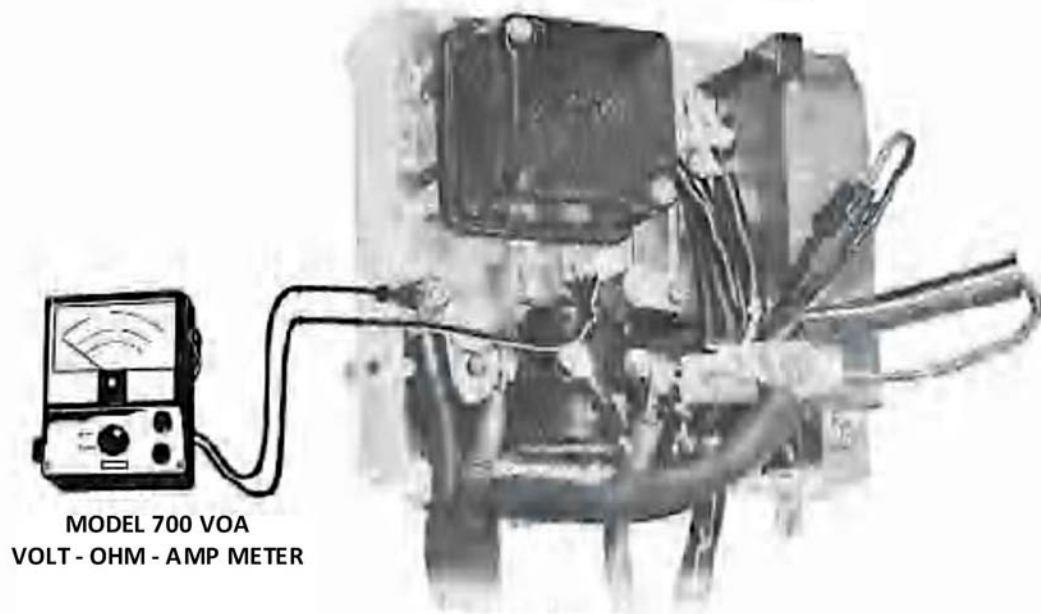

Figure 35
1. To check the voltage setting reconnect all connections and then connect the positive Merc-O-Tronic Model 700 VOA voltmeter lead to the regulator "BAT" terminal and the negative lead to ground. (Fig. 35).